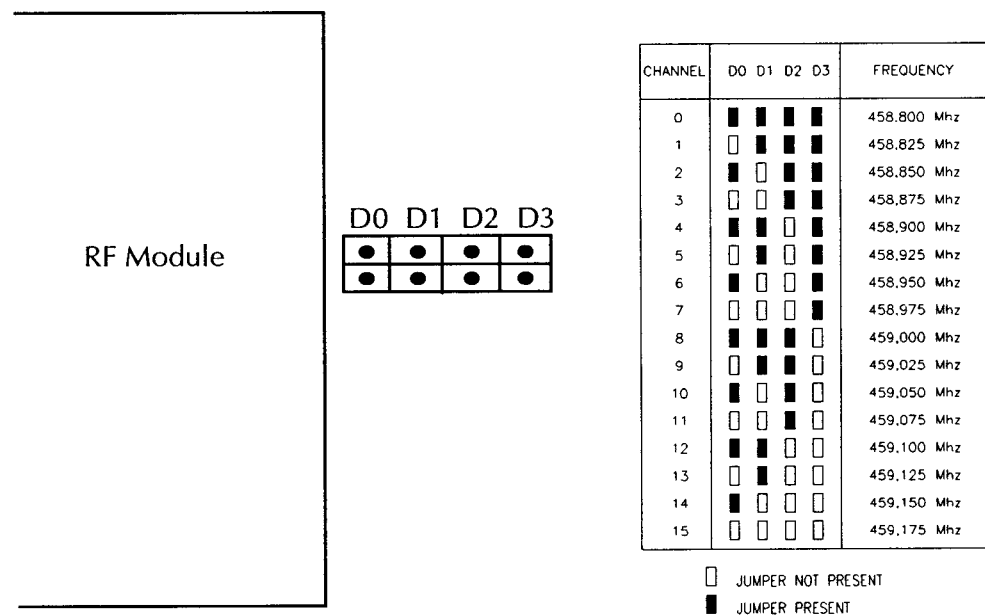

Figure 2.11: Frequency Diagram
2. The transmitter and receiver operate over the 400—470 MHz frequency range (70-cm band). There are 16 possible frequencies and 16 corresponding channels available. Figure 2-11: Frequency Diagram shows each channel, its respective frequency, and the position of the four jumpers according to the diagram for the frequency you are setting.